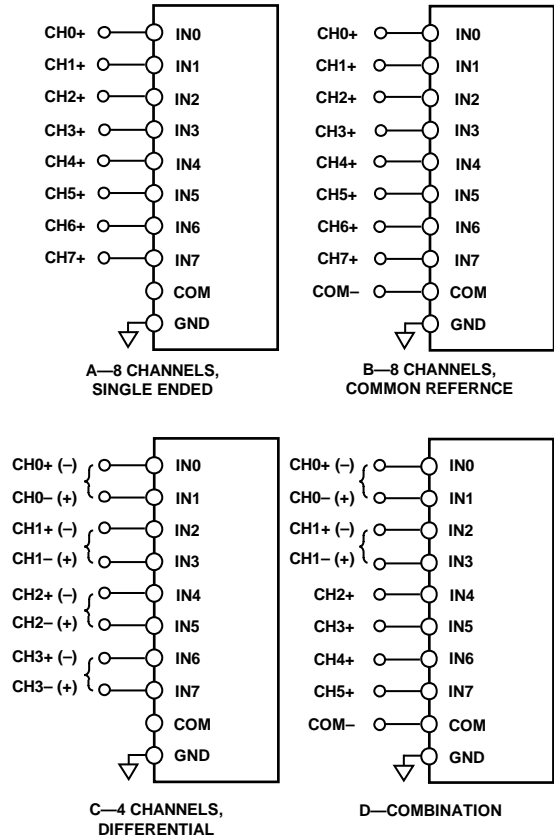

Figure 32. Multiplexed Analog Input Configurations
Figure 32 shows the different methods for configuring the analog inputs with the configuration register, CFG[12:10]. Refer to the Configuration Register, CFG section for more details.
- Figure 32 (A), single-ended referenced to system ground, CFG[12:10] = 111₂. In this configuration, all inputs (IN[7:0]) have a range of GND to V_{REF}.
- Figure 32 (B), bipolar differential with a common reference point, COM = V_{REF}/2, CFG[12:10] = 010₂. Unipolar differential with COM connected to a ground sense; CFG[12:10] = 110₂. In this configuration, all inputs IN[7:0] have a range of GND to V_{REF}.
- Figure 32 (C), bipolar differential pairs with the negative input channel referenced to V_{REF}/2, CFG[12:10] = 00X₂. Unipolar differential pairs with the negative input channel referenced to a ground sense, CFG[12:10] = 10X₂. In these configurations, the positive input channels have the range of GND to V_{REF}. The negative input channels are a sense referred to V_{REF}/2 for bipolar pairs, or GND for unipolar pairs. The positive channel is configured with CFG[9:7]. If CFG[9:7] is even, then IN0, IN2, IN4, and IN6 are used. If CFG[9:7] is odd, then IN1, IN3, IN5, and IN7 are used, as indicated by the channels with parentheses in Figure 32 (C). For example, for IN0/IN1 pairs with the positive channel on IN0, CFG[9:7] = 000₂. For IN4/IN5 pairs with the positive channel on IN5, CFG[9:7] = 101₂. Note that for the sequencer, detailed in the Channel Sequencer section, the positive channels are always IN0, IN2, IN4, and IN6.
- Figure 32 (D), inputs configured in any of the preceding combinations (showing that the AD7682/AD7689 can be configured dynamically).